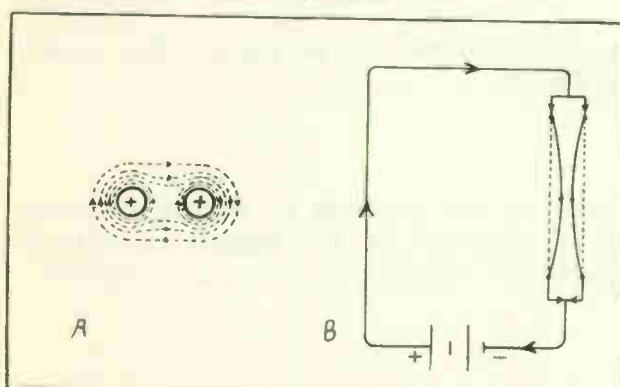

Fig. 5
- b. When current in two parallel wires is in the same direction the wires tend to attract each other, Fig. 5.